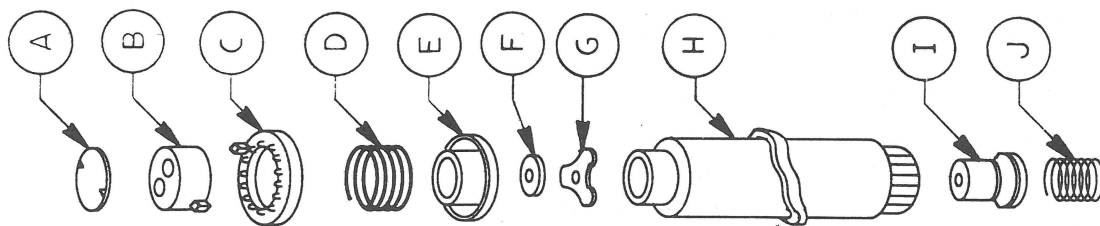

FIGURE 16
□ COLOR RIBBON ASSEMBLY (Figure 16)